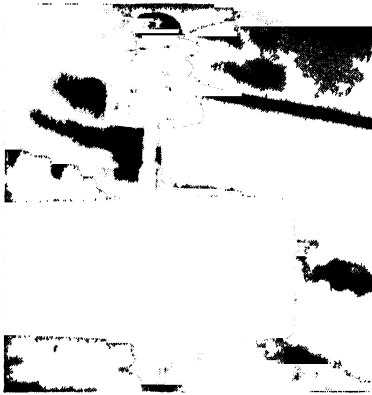

FIG 4-48 Pin insulator mounted in position. Typical low-voltage side-groove glass-pin insulator. Note use of steel insulator pin. (Courtesy Kimble Glass Co.)
**Pin Type.** The pin insulator gets its name from the fact that it is supported on a pin. The pin holds the insulator, and the insulator has the conductor tied to it. Figure 4-48 shows a typical pin insulator in position.
as Fig 4-48 shows. The porcelain insulator (Fig 4-49) is also a one-piece insulator when used on low-voltage lines but consists of two, three, or four layers cemented together to form a rigid unit when used on high-voltage lines. It is usually one piece for voltages below 23,000 volts,